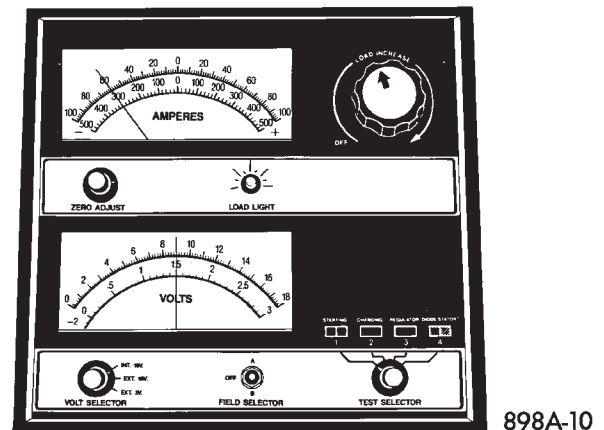

Fig. 8 Remove Surface Charge from Battery - Typical
(3) Rotate the load control knob (carbon pile rheostat) to apply a 300 ampere load to the battery for fifteen seconds, then return the control knob to the Off position (Fig. 8). This will remove the surface charge from the battery.